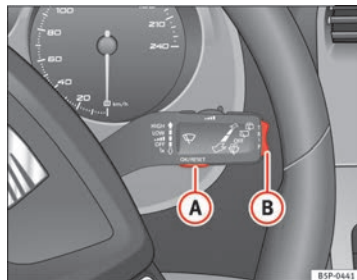

Fig. 47 Windscreen wiper lever (MFI): button A to confirm the menu selection and rocker switch B to change the menu
- Select the option **Vehicle status** from the main menu: “Main menu” and press button **OK** on the windscreen wiper lever **A** ⇒ Fig. 47. **Or**